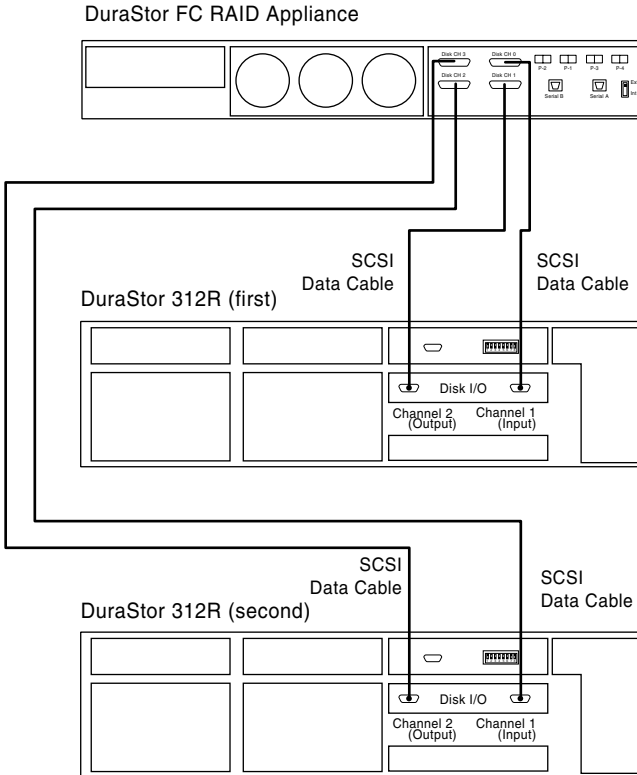

Figure 3-22 Dual-Bus 13–24-Drive Cabling Diagram
- 2 Connect the DuraStor Fibre Channel-to-SCSI RAID appliance to the DuraStor 312R using SCSI data cables as shown in Figure 3-22.